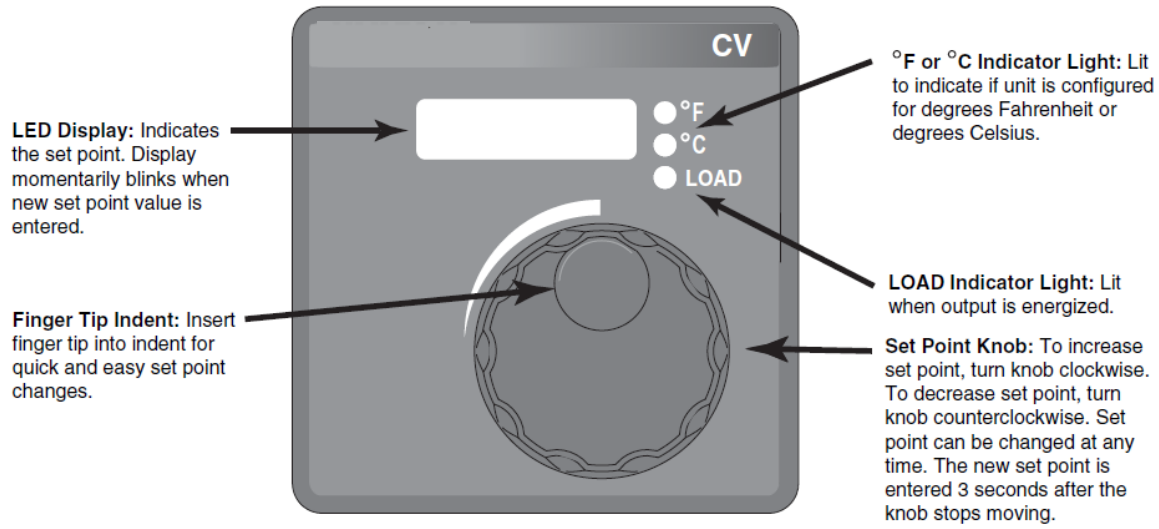

Figure 5
5. Set the desired hot plate temperature on the control panel. How to use the operational controls are explained in *Figures 5 & 6*.